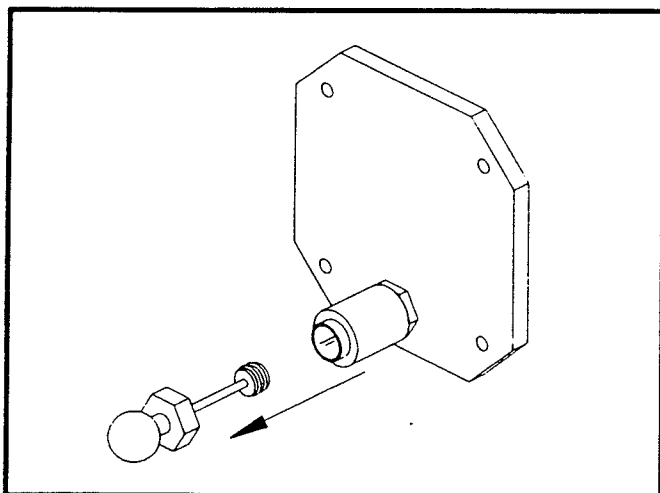

Figure 10
B.Remove the plunger from the front door by turning the white cap counter clockwise, then pulling straight out (Fig. 10).